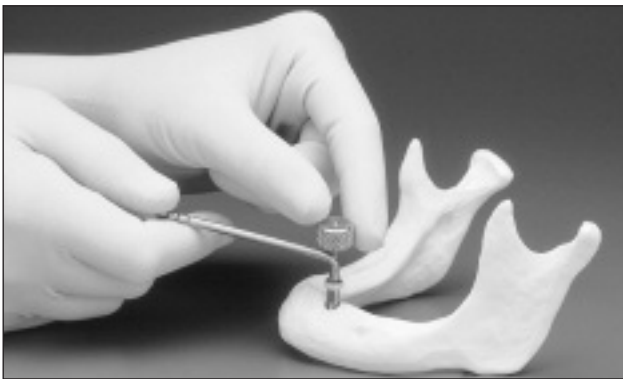

Figure 17.
- D.** After the implant is seated at the desired level, unscrew the implant driver mount by disengaging the retaining screw with the 1.25mmD (0.050") Hex Tool. The driver mount Countertorque Tool may be used to prevent rotation of the implant during driver mount removal (**Fig. 17**). The external hex of the Countertorque Tool engages the hex socket of the driver mount. A hole in the end of the Countertorque Tool allows the long Hex Drive Seating Tool to be passed through the Countertorque Tool and engage the retaining screw. While holding the Countertorque Tool in a fixed position, disengage the retaining screw by turning the Hex Drive Seating Tool in a counterclockwise direction. Remove the driver mount from the implant body. Both the driver mount and the retaining screw are disposable products.